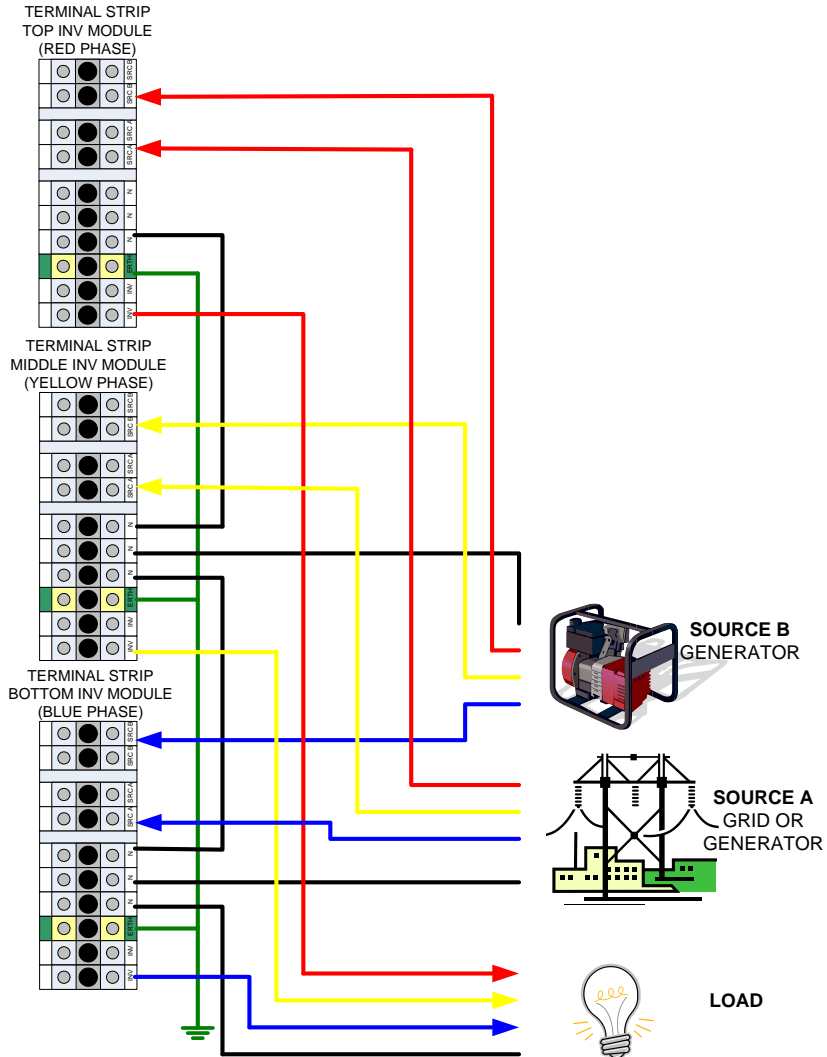

Figure 23: 3-Phase AC Input/Output Connections
- c) Three phase installation which will always have three Inverter Modules, i.e. one for each phase (see Figure 23). If both Source A and Source B inputs are used correct phases are connected to each Inverter Module. Top module = Red Phase, Middle Module = Yellow Phase and Bottom Module = Blue Phase. Earth and Neutral must be connected.